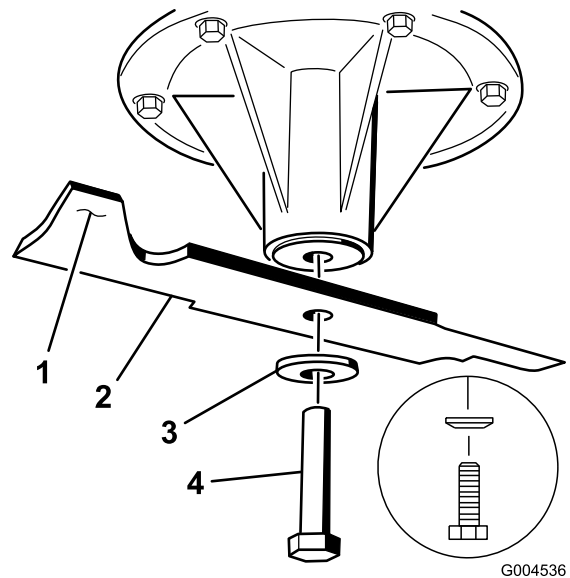

Figure 58
- For 48 inch mower decks, remove the blade bolt, curved washer, and blade from the spindle shaft (Figure 58).
- Note:** If the blade is not balanced, file some metal off the end of the sail area only (Figure 58).
1. Install the blade onto the spindle shaft (Figure 58).
- Important:** The sail part of the blade must be pointing upward, toward the inside of the mower to ensure proper cutting (Figure 58).
2. For 48 inch mower decks, install the blade, curved washer, and blade bolt (Figure 58).